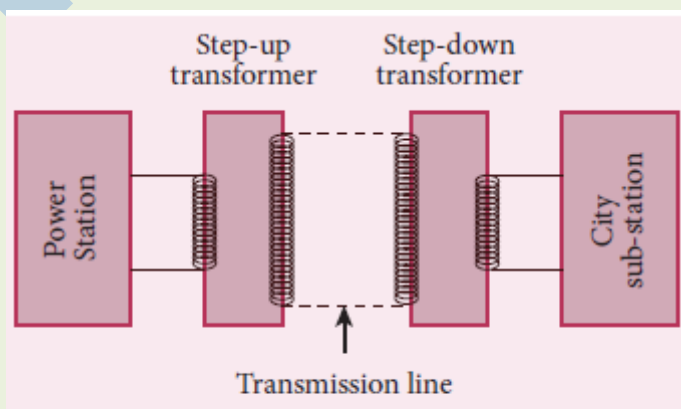

Figure 4.33 Long distance power transmissions
- At the transmitting point, the voltage is increased and the corresponding current is decreased by using step-up transformer (Figure 4.33). Then it is transmitted through transmission lines. This reduced current at high voltage reaches the destination without any appreciable loss.